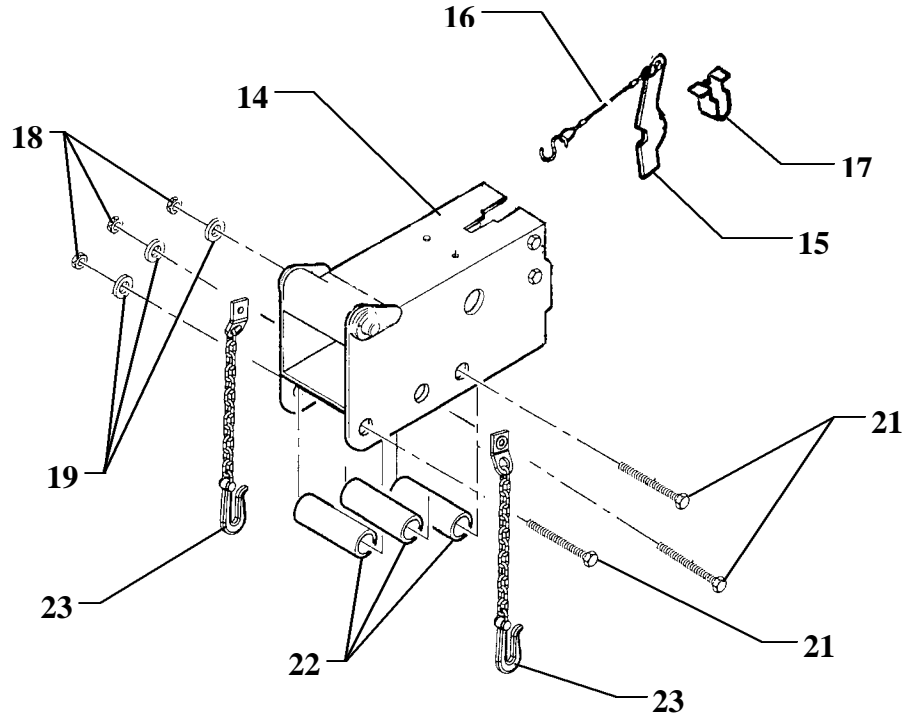

Figure 4
7. Pull out the emergency brake actuation hardware from the housing —the lever (15), cable (16) and metal “U” clip (17) and save for re-use. Note that the metal “U” clip may be stuck to the master cylinder assembly. Remove three locknuts (18), three washers (19), three capscrews (21) and three spacers (22) securing hydraulic actuator housing (14) to trailer. NOTE: If MWO 9-2330-392-35-1 has been applied, vehicle will not have spacers (22). Retain the safety chains (23) for re-use. (figure 4) Discard bolts, nuts and washers. Remove housing from drawbar.